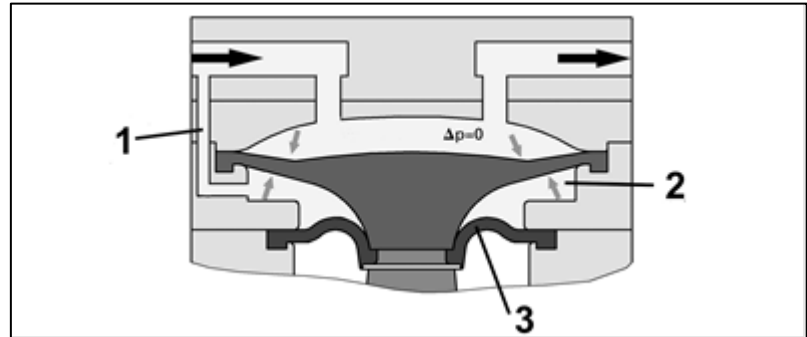

Fig. 5: Function diaphragm stabilization system
An additional diaphragm, the so-called stabilization diaphragm (3), separates the underside of the working diaphragm from the “crank” space of the pump (see Fig. 5). The space between the two diaphragms, called a vacuum chamber (2), is connected with the suction side of the pump via an balancing connection (1). This way, the vacuum chamber has approximately the same pressure as the working space of the diaphragm pump. The pressure difference between the upper and underside of the diaphragm approaches zero. The working diaphragm remains stable, independent of the inlet pressure of the pump. This improves the suction speed of the pump significantly, over its entire working range.